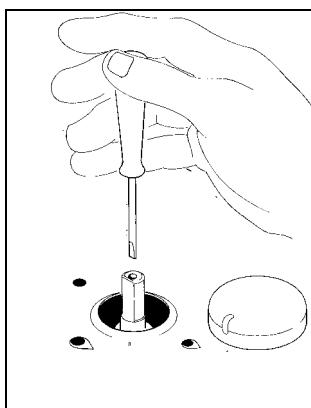

fig.7
- 2) Remove the knob ( Fig. 7 ) of the tap which is set for standard pressure. The knob is found on the bar of the tap itself.
- 3) Beside the tap bar on the work top, insert a small slotted screwdriver into the hole on the vale rod (Fig. 7) and turn the choke screw to the right or left until the flame of the burner is regulated in the most suitable way to MINIMUM.